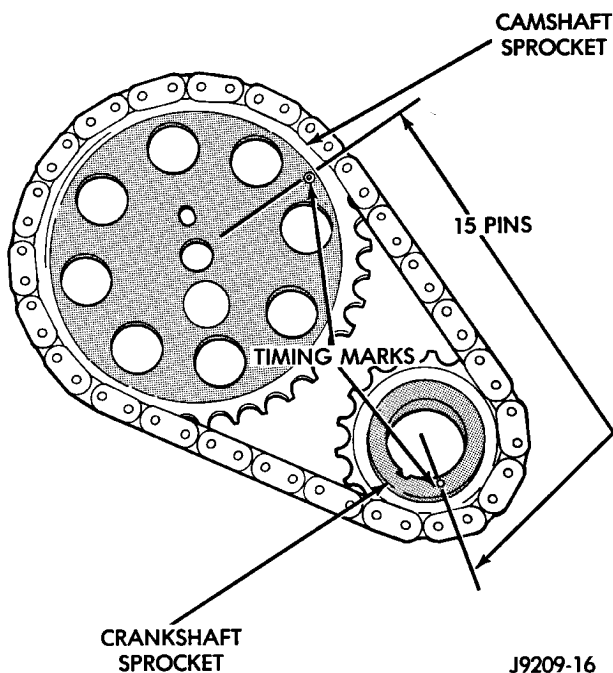

Fig. 48 Verify Crankshaft—Camshaft Installation—Typical
- (5) To verify correct installation of the timing chain, turn the crankshaft to position the camshaft sprocket timing mark as shown in (Fig. 48). Count the number of chain pins between the timing marks of both sprockets. There must be 15 pins.